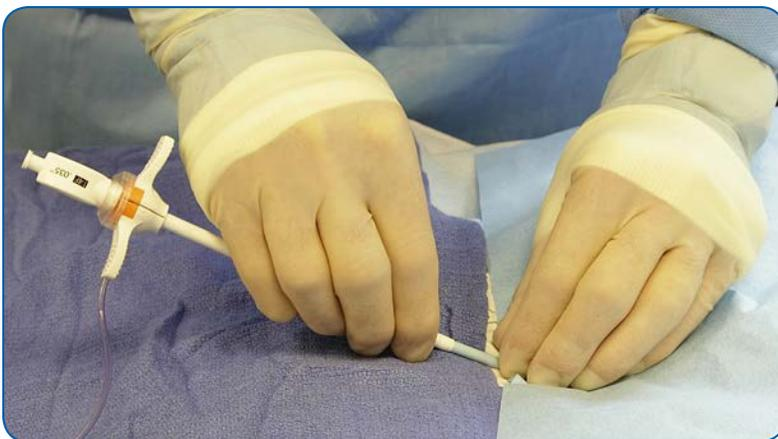

Figure 5.20 Inserting the Peel-Away Introducer
3. Remove the 5–8 Fr introducer over the 0.035 guidewire. Sequentially insert and remove the 8 Fr, 10 Fr, and 12 Fr dilators and then insert the peel-away introducer with dilator (see Figure 5.20). While inserting the introducer, hold the shaft of the introducer to slide it into the artery.